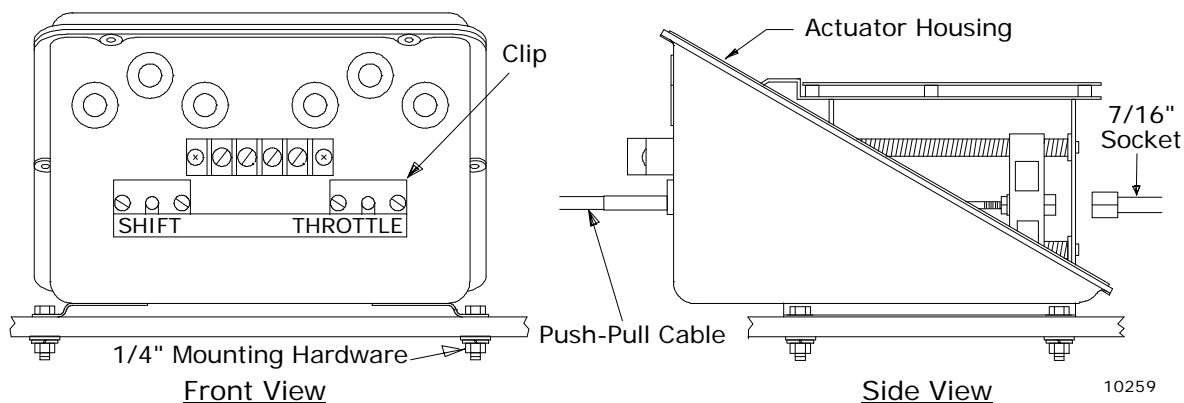

Figure 10
- Connect the push-pull cables to the Actuator. Refer to Figure 10. Remove the 10-32 jam nut and the two rubber seals from the push-pull cable end that is to connect to the Actuator. Reinstall the 10-32 jam nut. Remove one cable anchor clip screw from the Actuator housing and swing the cable clip clear. Connect the shift cable and throttle cable to the proper hex nut. See label on the Actuator. Use a 7/16" socket to turn the hex nut onto the 10-32 cable rod end until there is 5/16" of thread showing beyond the jam nut.